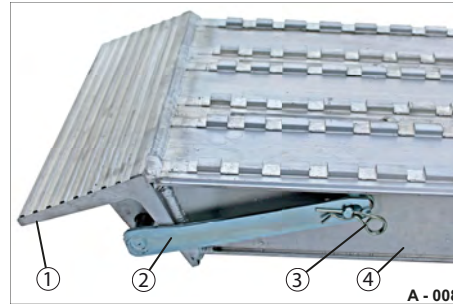
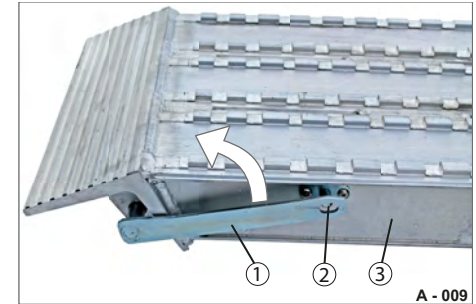

Fig. 12 Opening the locking lever
Fig. 13 Locking lever unsecured
- Pull the spring pin (Fig. 12/3) out of the retaining bolt (Fig. 13/2). The locking lever is released.
- Swing the locking lever (Fig. 13/1) upwards.